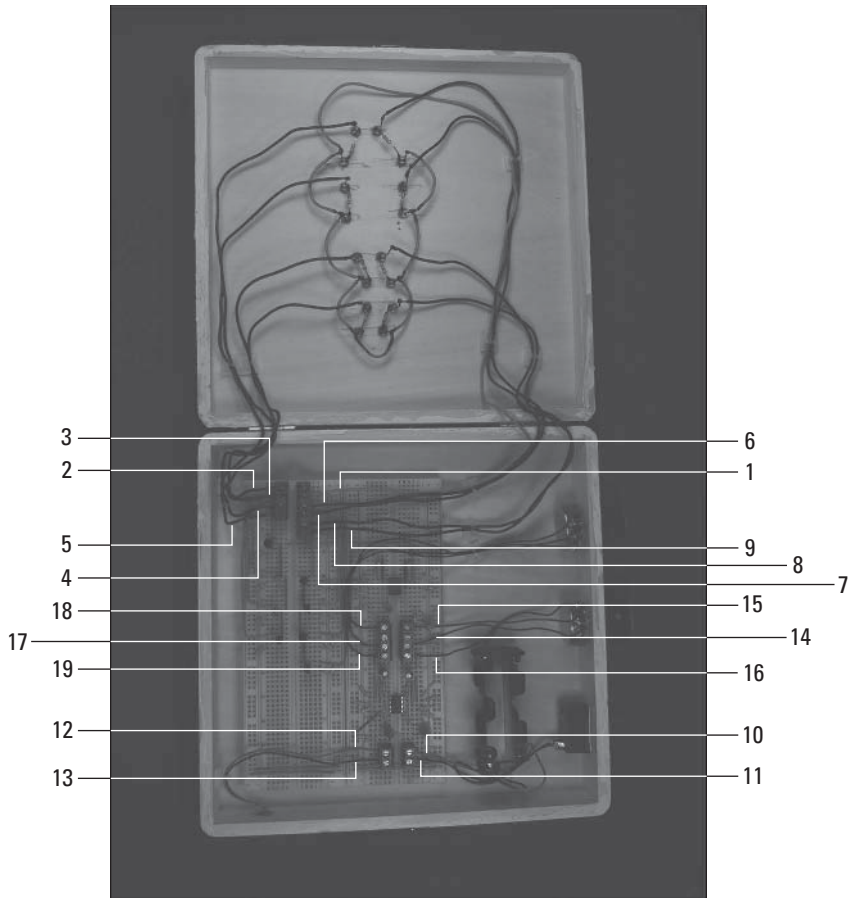

Figure 5-24: LEDs, battery pack, and on/off switch connected to the breadboard.
11. Insert the wires from the LEDs, battery pack, and the on/off switch to the terminal blocks on the breadboard, as shown in Figure 5-24.
Use the following as a key to the numbered callouts in Figure 5-24.